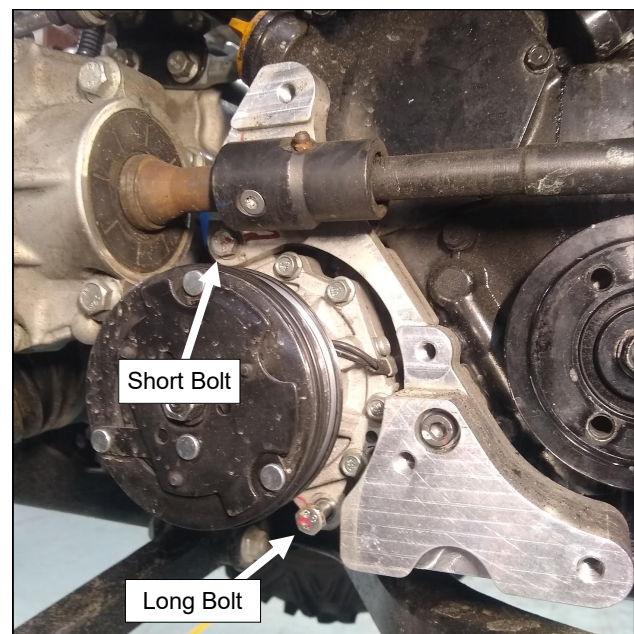

Fig. 3.2 Compressor Orientation
- 3.2 Per fig. 3.2, orient compressor onto the previously installed compressor bracket and secure. *Note: Short bolt and nut belong in upper compressor ear. Place flat washers under bolt heads. Torque fasteners to 20 ft lbs.*